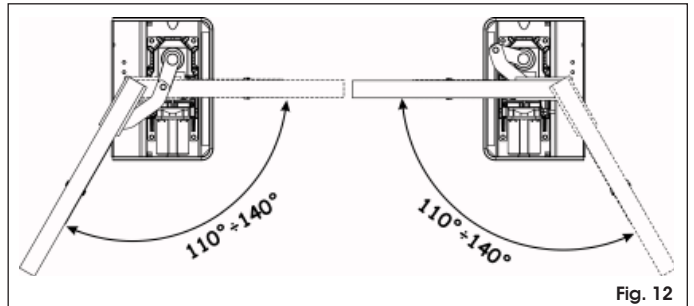

Fig. 12
**👉 In order to determine the exact position of the operator with the levers for 110° and 140° opening, please refer to fig. 12. In any case the operator pinion must be on the opposite side of leaves opening direction.**